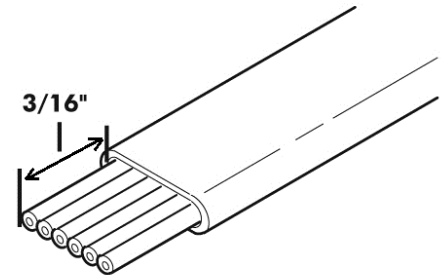

FIGURE 22: Stripped CA Cable
5. The stripped insulation should expose approximately 3/16" of wire (Figure 22).